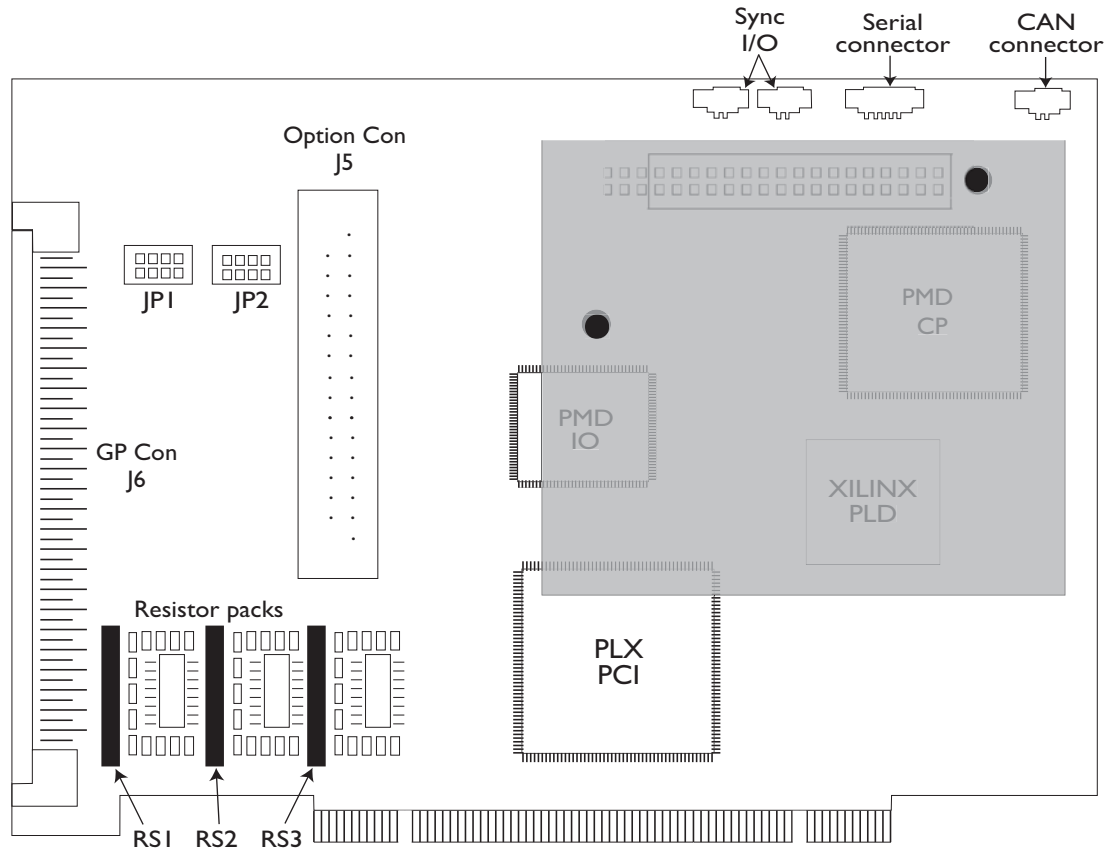

Figure 4-3:
- 1 To mount the DC-1000 to the Prodigy-PCI, remove the Prodigy-PCI Motion Card from the computer (if installed). Orient the card as shown in Figure 4-3 with the GP Con connector (J6) on the left.
- 2 Position the DC-1000's parallel connector socket (DC1) over the Prodigy-PCI board's Extension Con. Ensure that the right edge of the mating connectors are aligned. The DC1 connector socket is shorter than the Prodigy-PCI board's Extension Con, and when the right edges of both are properly aligned, three sets of pins on the Extension Con will be visible at the left of the DC-1000's connector when viewed from above the boards. Before pressing the DC-1000 into place, view the boards from the front in the same orientation as Figure 4-3. Verify that the two sets of mounting holes are in exact alignment.